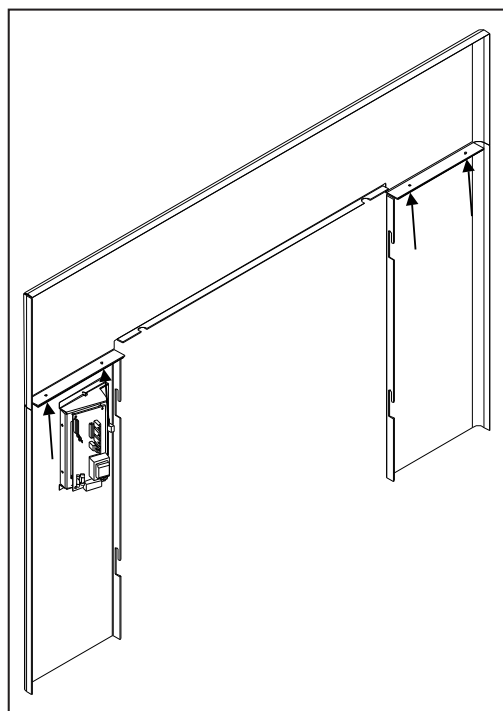

Figure 40: Assembled Surround Panel.
1. To assemble the surround panels, lay the panels face down on a soft flat surface and align the outer edges of the sides with the top panel. Using four (4) T-20 screws up through the side panels into the top (see Figure 40).